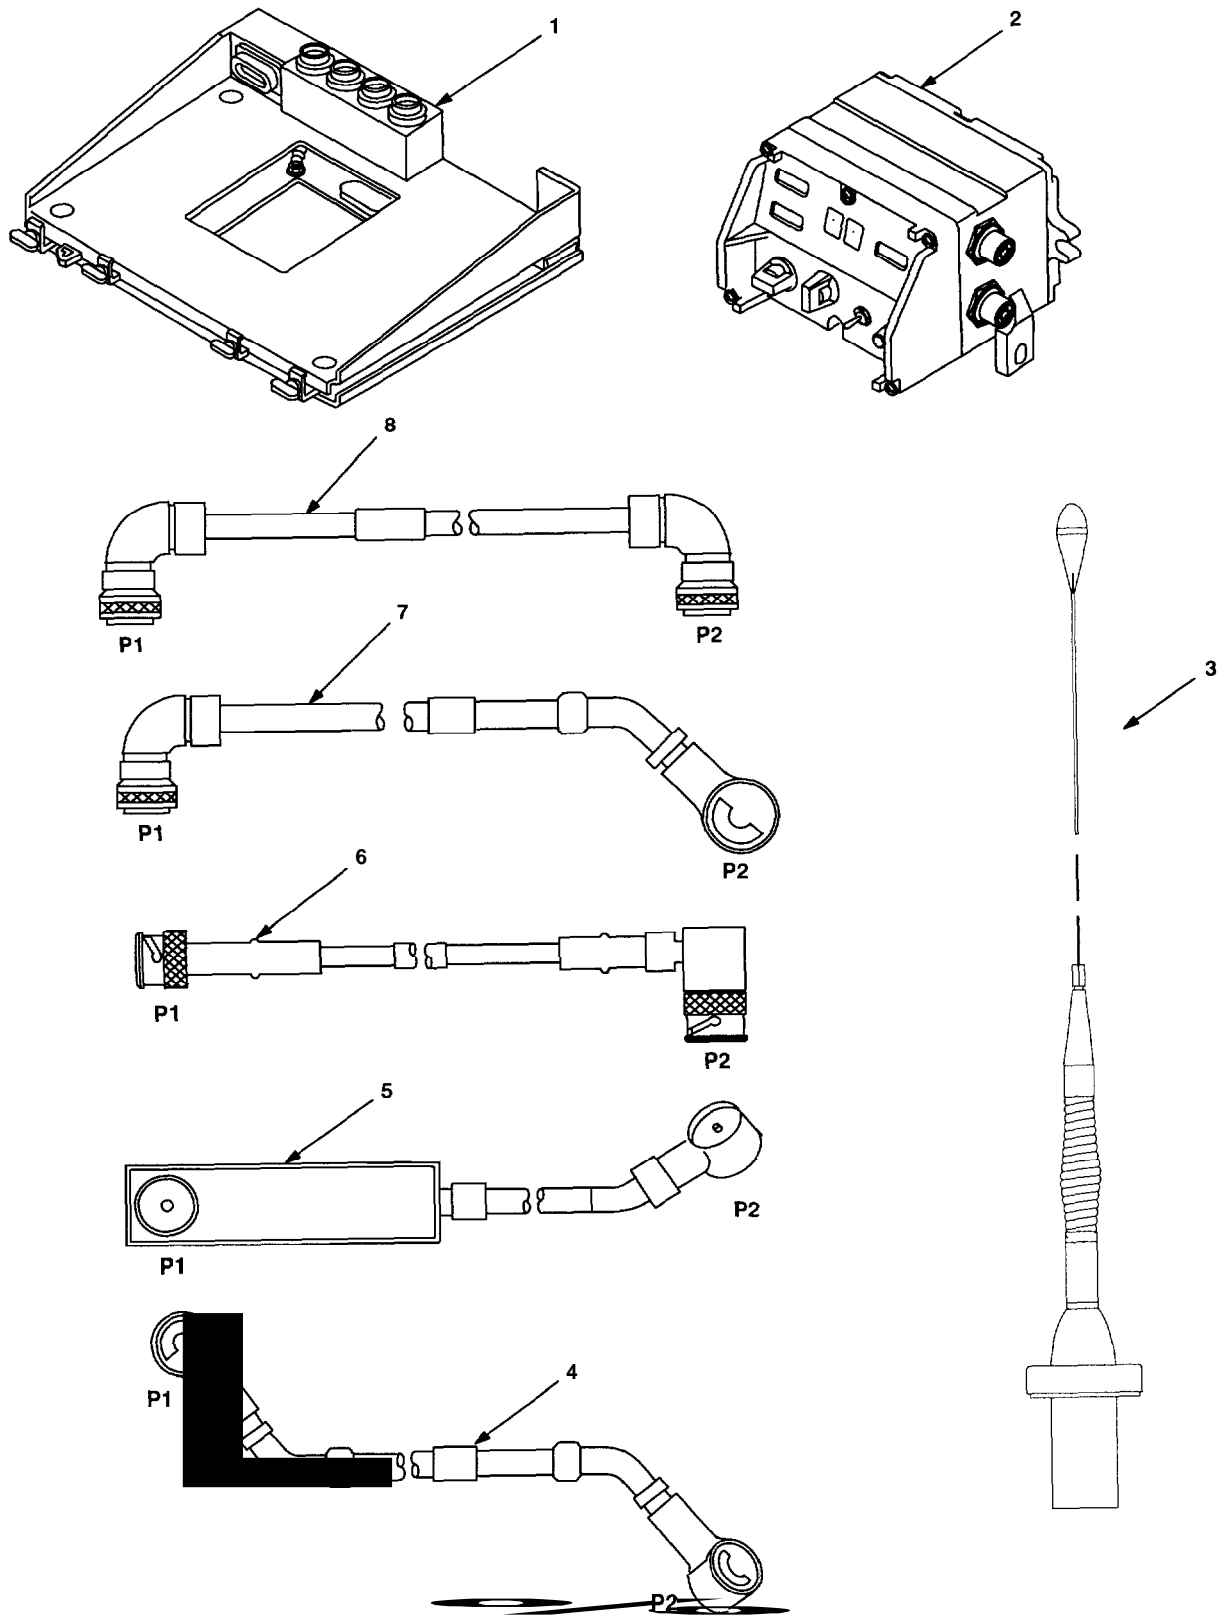
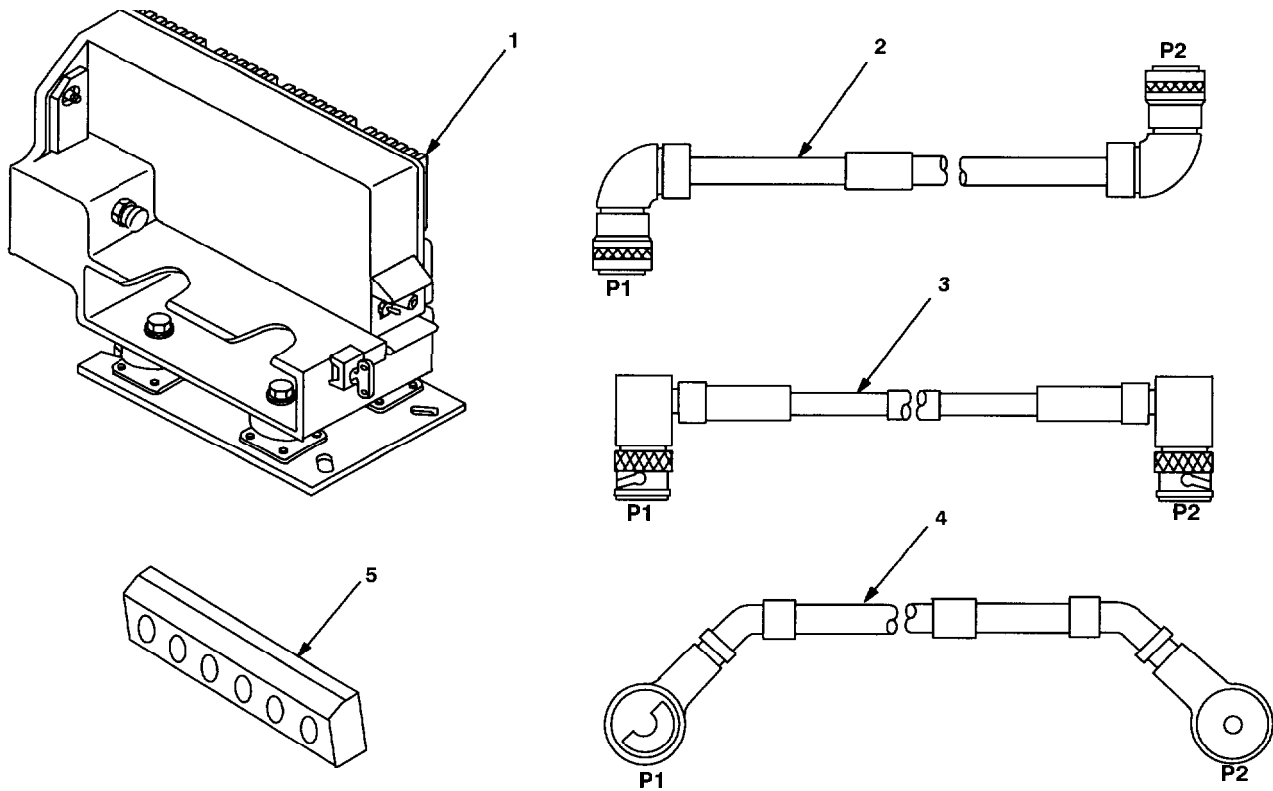

Figure 4-1. MK Illustrated Parts List
Figure 4-2. Illustrated Parts List for Table 4-2
4.3.1 Items Supplied in MK and/or Required for Installation. Use Table 4-1 and figure 4-1 to identify and inventory MK parts supplied to install Radio Set Series: AN/VRC-87/88/90 or AN/VRC-89/91. Refer to Table 4-2 and figure 4-2 to identify additional items required to install Radio Set AN/VRC-92 Series.